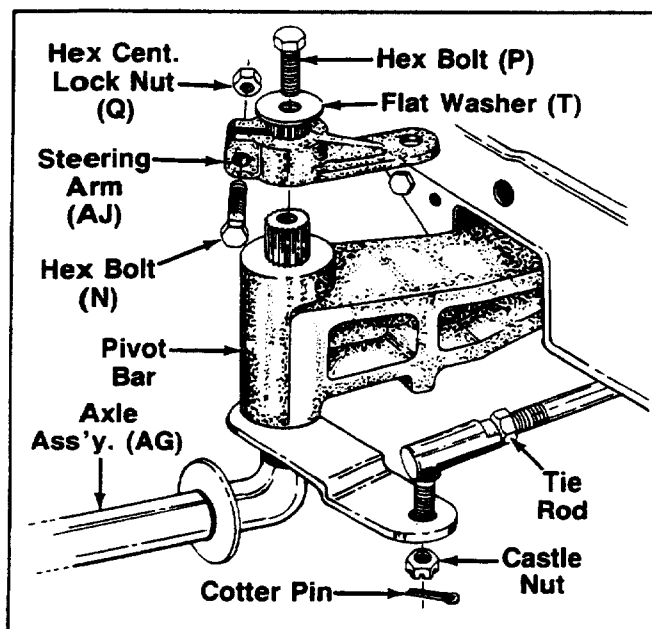

FIGURE 26.
21. Lower the tractor down towards the floor, but keep high enough to allow assembly of axle assembly (AG) and wheel.
22. Assemble the new left hand axle assembly (AG) through the pivot bar.
24. Assemble the tie rod to axle assembly with lock washer, hex castle nut and cotter pin, removed in disassembly section, step 14B. Tighten securely and install cotter pin. See figure 26.
Figures 26 and 27 are shown without wheel for clarity.
28. Install hex bolt (N) through steering arm (AJ) and secure with hex center lock nut (Q). See figure 26.
29. Secure the axle assembly to the pivot bar with hex bolt (P) and flat washer (T). See figure 26.